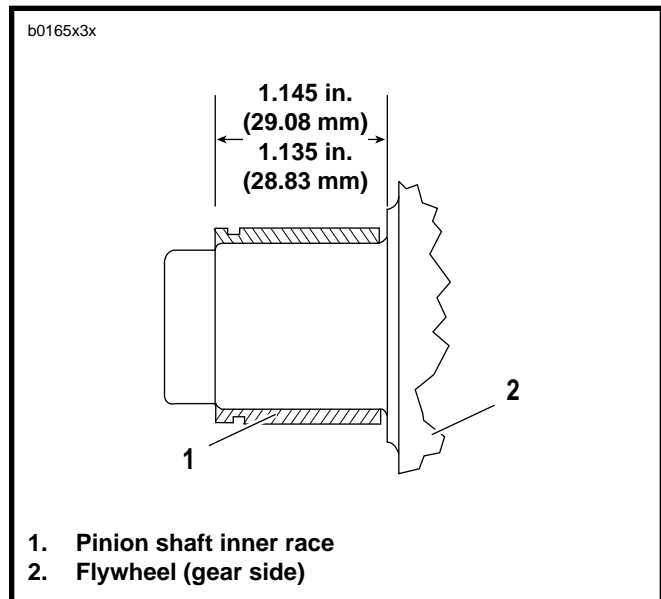
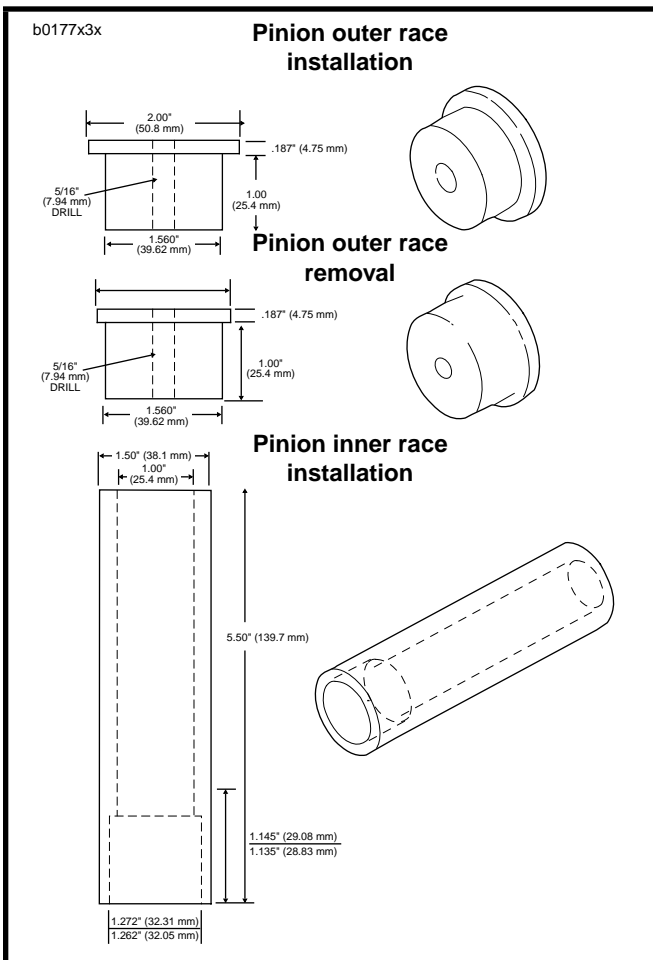

Figure 3-79. Inner Race Location
Figure 3-80. Pinion Shaft Bearing Tools
See Figure 3-80. Dimensions are shown for fabrication of tools used in pressing the outer race into or out of crankcase.
- See Figure 3-79. Press **new** inner race on pinion shaft as shown. The **new** inner race must be ground by a competent machinist to OD dimension range given in the PINION SHAFT BEARING SELECTION TABLE, for the finished lapped ID of the outer race. The finished inner race must meet these specifications. For necessary dimensions for constructing a press-on tool see Figure 3-80. When the tool bottoms against the flywheel, correct inner race location is automatically established.